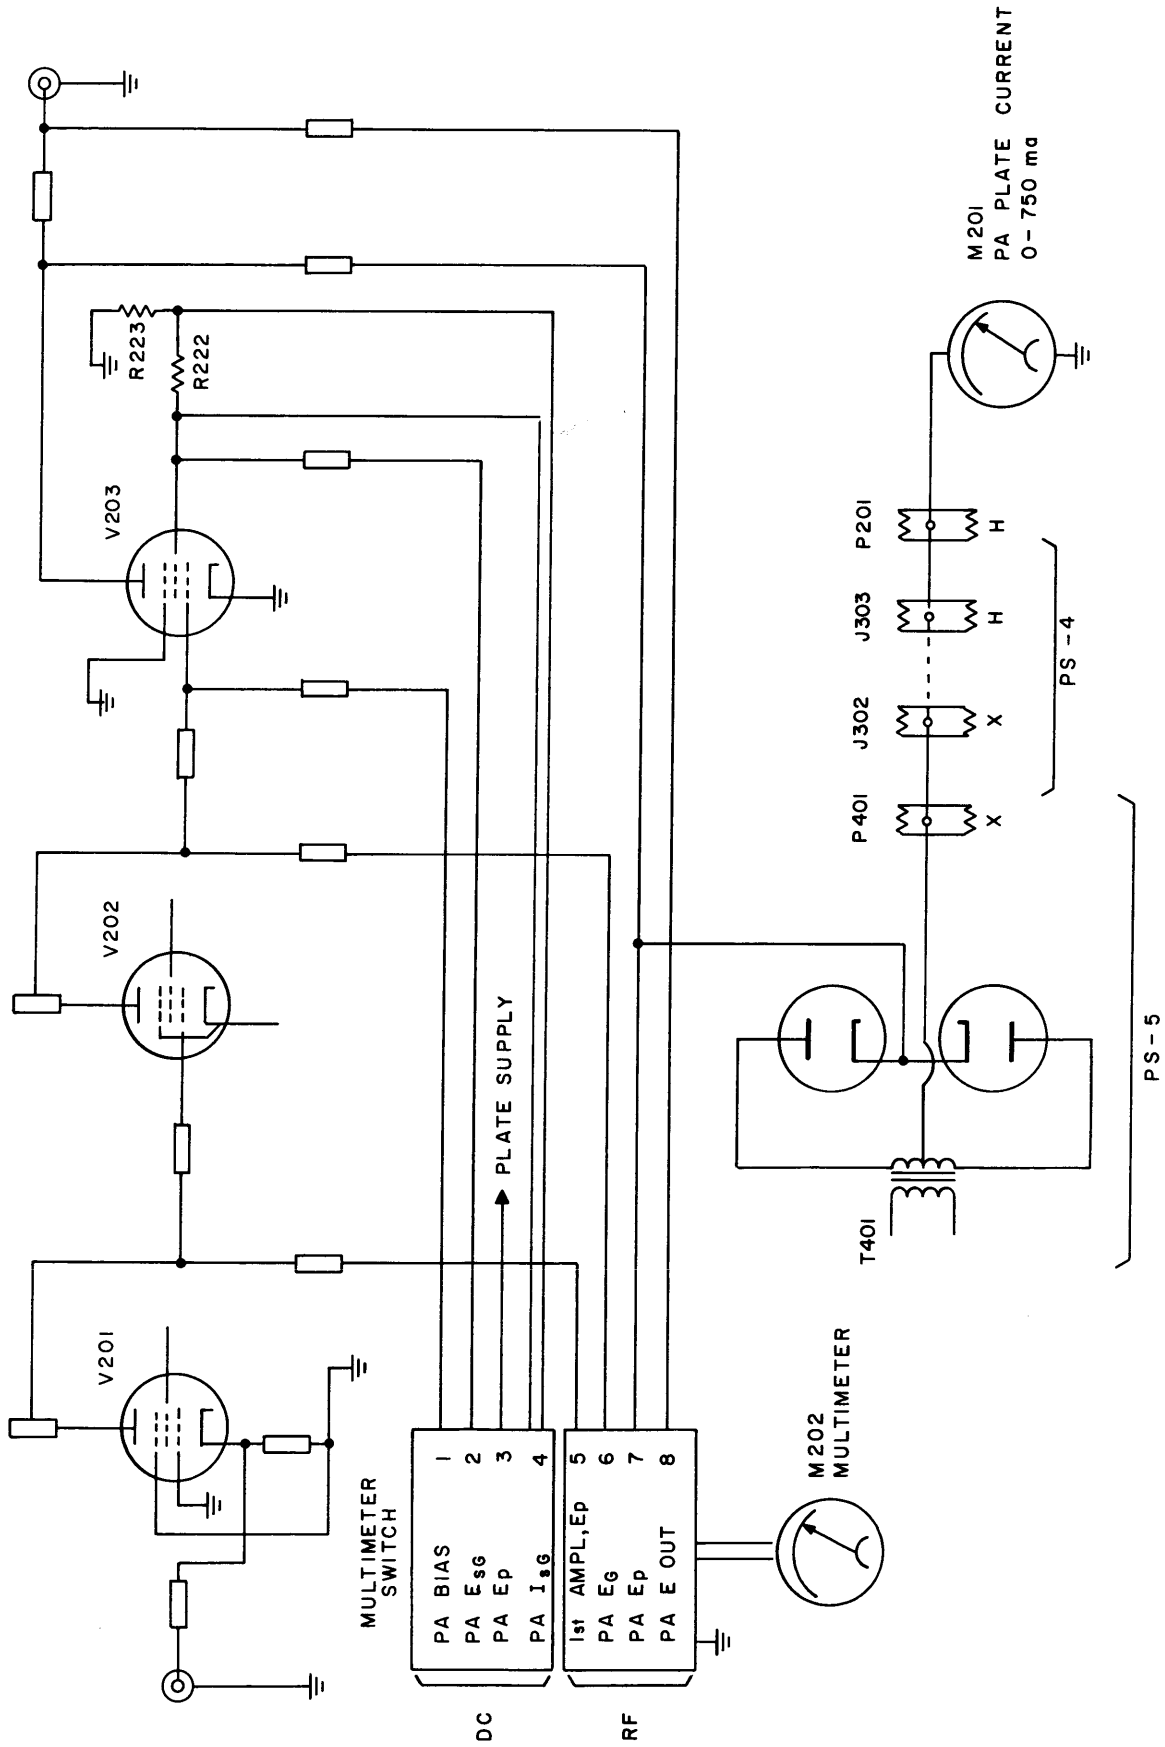

Figure 4-5. Simplified Schematic, Metering Circuits, RFD
f. METERS M201 AND M202. (See figure 4-5.) - Meter M201 measures DC plate supply to PL-172. The meter deflection should be less than 250 ma with no RF drive and to avoid excessive expenditure of power in PA tube, the deflection should not exceed approximately 600 ma with full RF output.